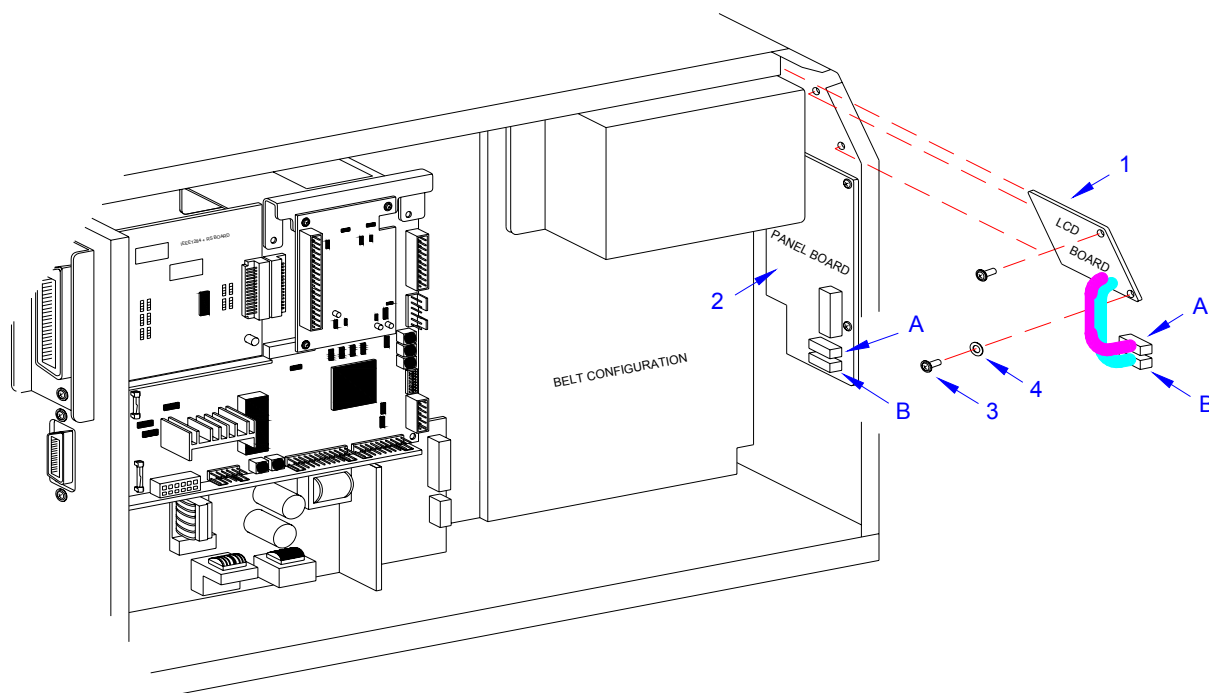

Figure 7-7, LCD Board Replacement
- 3 Locate LCD board (1, Figure 7-7) mounted to the interior of the front cover.
- 4 Disconnect wiring harnesses (A) and (B) from panel board (2).
- 5 Remove two screws (3) and one plastic washer (4) securing LCD board (1) to the printer.
- 6 Manipulate LCD board (1) laterally from within the printer.
- 7 Insert replacement LCD board (1) behind the face cover so that the LCD is aligned with its respective slot in the cover.
- 8 Apply screw (3) into the upper mounting orifice and screw (3) with washer (4) to the lower.
- 9 Tighten screws (3) securely.
- 10 Connect LCD wiring harnesses (B) and (A) to panel board (2).